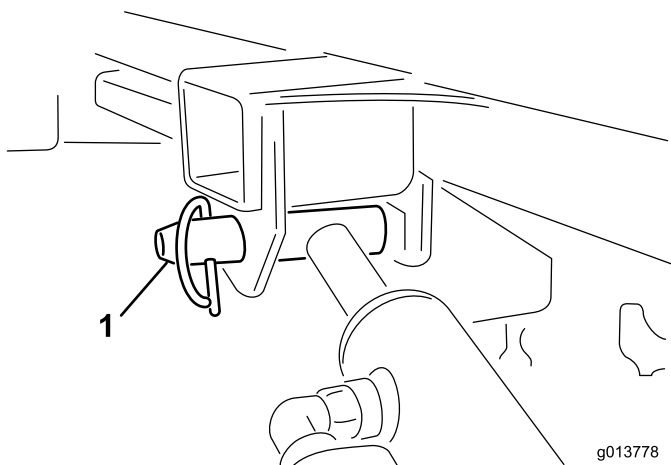

Figure 51
11. With one hand, hold the lift cylinder. With the other hand, remove the lift cylinder's locking pin (Figure 51).